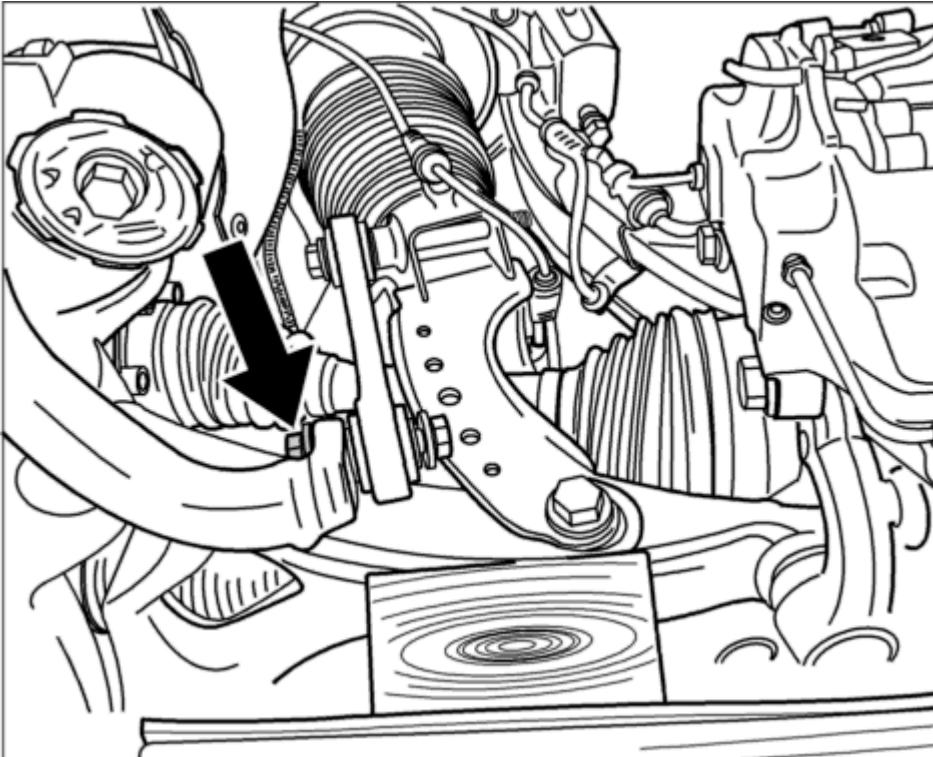

Fig. 85: Lower connecting link
5. Remove lower connecting link -**arrow**- using the lift to support the wheel carrier (assembly aid). See **Fig. 85**.